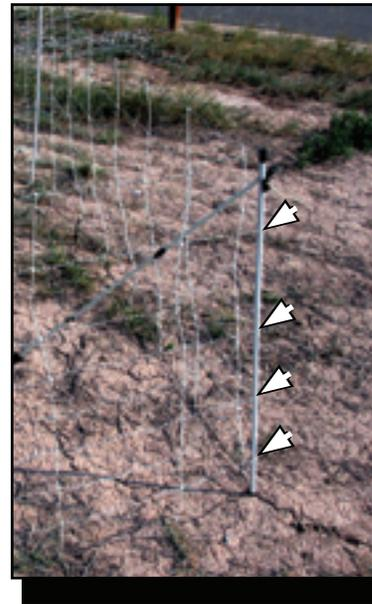

Figure 8—Make sure that the hot wires (arrows) are on the outside of the fence posts. Otherwise, a bear could knock the post over without getting shocked.
7. Make sure that the energized hot wires are on the outside of the posts (figure 8).